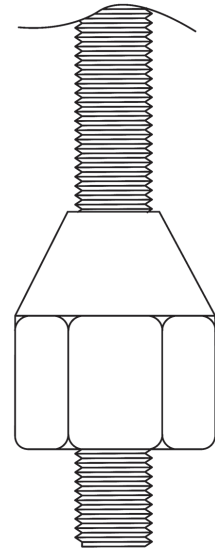

Fig. 7 Nut threaded onto drawbar.
5. Thread the drawbar nut, tapered side up, onto the bottom of the drawbar until it stops below the spindle housing cartridge. See Figure 7.